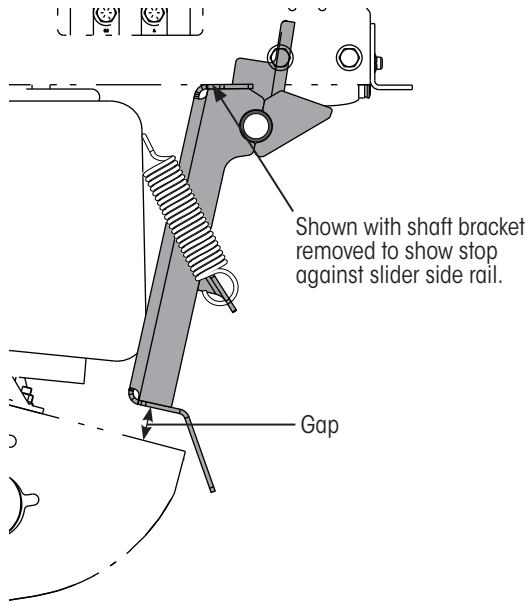

Figure 2: SURELOK engaged (parking brake set)
1. **Apply** the trailer parking brake and **chock** trailer wheels. SURELOK will automatically engage (Figure 2) when the trailer parking brake is applied.
2. **Visually check** to ensure both SURELOK arms are in the engaged position (e.g., the SURELOK arms must be positioned directly above the rear suspension beams as shown in Figure 2).